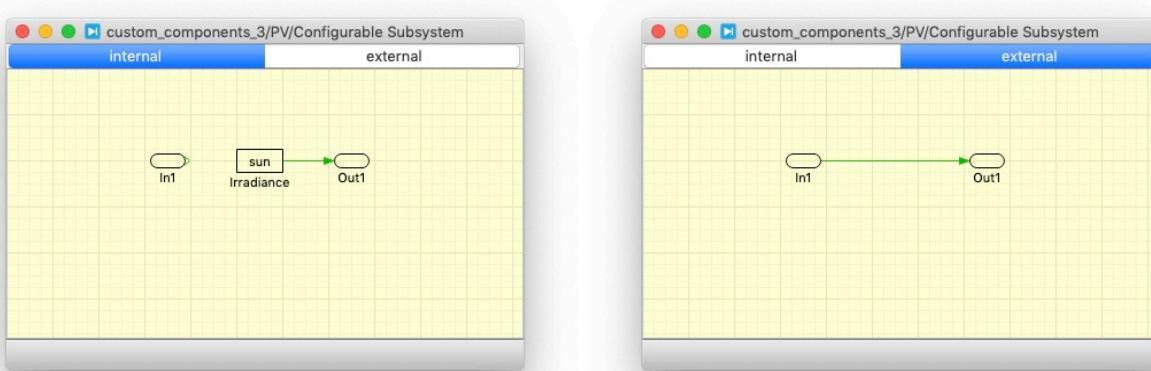

Figure 8: Schematic view of each subsystem configuration
- 5 You can open the schematic view of the Configurable Subsystem block by right-clicking on the subsystem and choosing **Subsystem + Open subsystem** or pressing **Ctrl+U**. The schematic of each configuration can be accessed by the tabs on top of the schematic view. A double-click on the configuration tab allows for the corresponding configuration to be renamed, i.e. to **internal**. Add a second configuration via the context menu of the tab bar, accessible by a right-click. Name the second configuration **external**. The schematic diagram of each subsystem configuration is shown in Fig. 8.